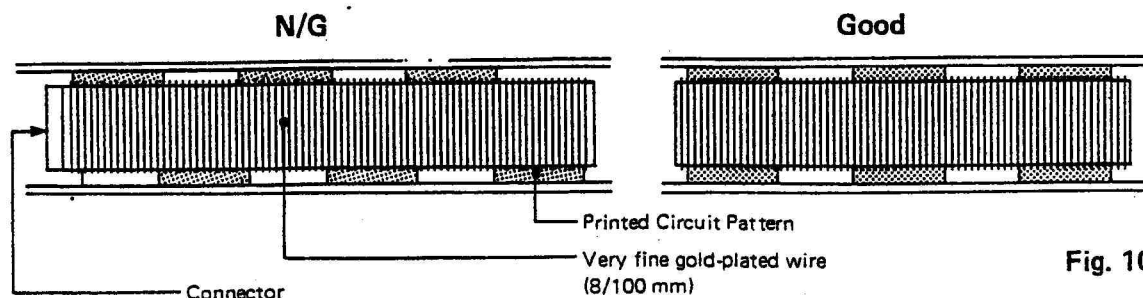

Fig. 10
- b) Align the upper and lower printed circuit patterns correctly, shown in (fig. 10), and fix firmly with screws.